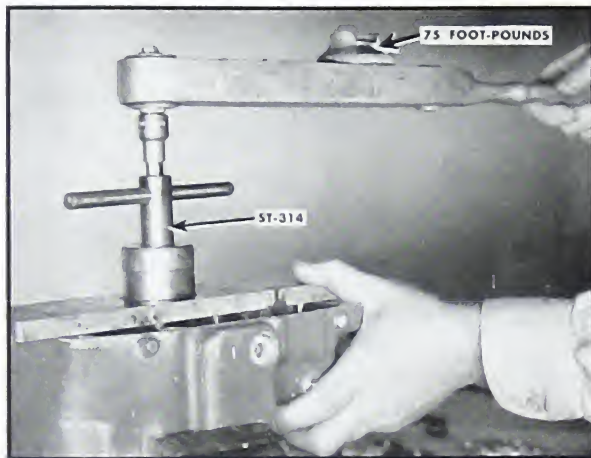

Fig. 5-230. Tightening retainer nut
7. Tighten retainer nut to 75 ft. lbs. torque with ST-314 fixture and a torque wrench. Fig. 5-230.